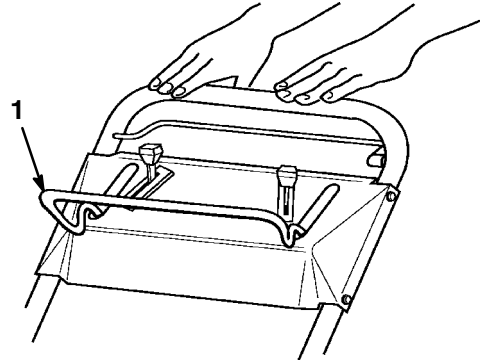

Figure 14
2. Release the blade control bail (Fig. 14). Both the engine and the blade will stop. Contact your Authorized Service Dealer immediately if they do not.